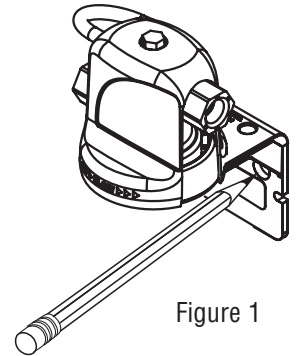

Figure 1
4. Using filter head/bracket as a guide, mark hole locations so that there is 1 1/2" between the screws (see Figure 1), from center of each screw.